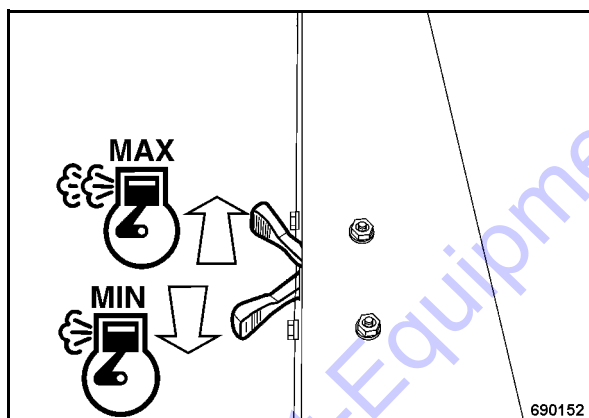

Fig. 26
- Keep shifting the throttle lever (Fig. 26) between "MIN" and "MAX" positions.